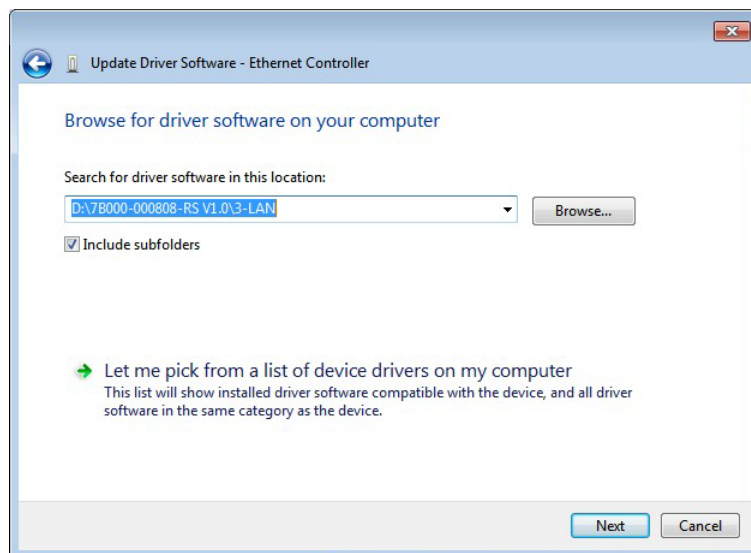

Figure 6-16: Locate Driver Files
Step 9: Click Browse to select “X:\3-LAN” directory in the **Locate File** window, where “X:\” is the system CD drive. (**Figure 6-16**).